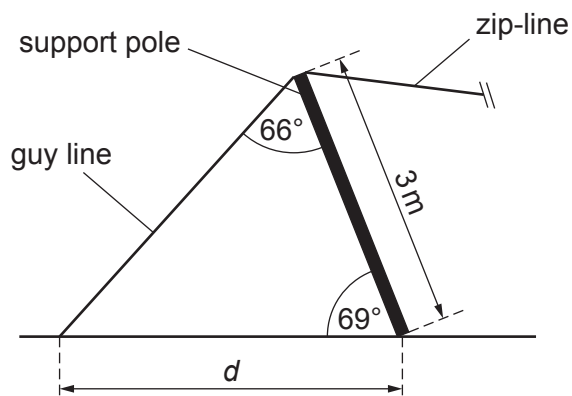

Fig. 2.2
- (ii) Fig. 2.2 shows construction details of the start point for the zip-line.